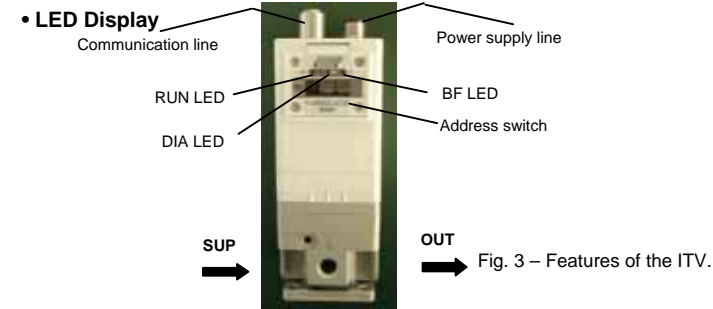

Fig. 3 - Features of the ITV.
- Setting the address switch requires the removal of 4 screws in the front panel of the unit (Fig 3). Take care as the panel hinges to a maximum of 90 degrees.